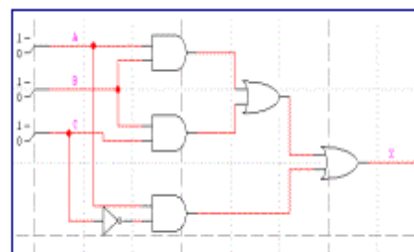

Fig. 12
- A short wire should be connected to the output of the final OR gate and this wire should be labeled Z. See Fig. 12. Notice that the output Z showed up in the *Timing Window*.